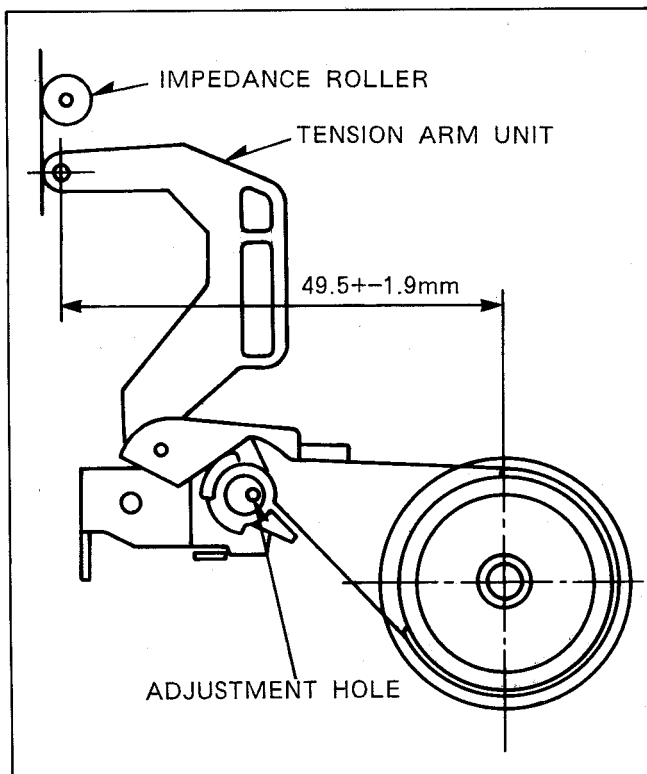

Fig. M1
4. Adjust the hole of TENSION BAND FASTENER by hex wrench so that the left edge of IMPEDANCE ROLLER and TENSION ARM UNIT as shown in Fig.M1.